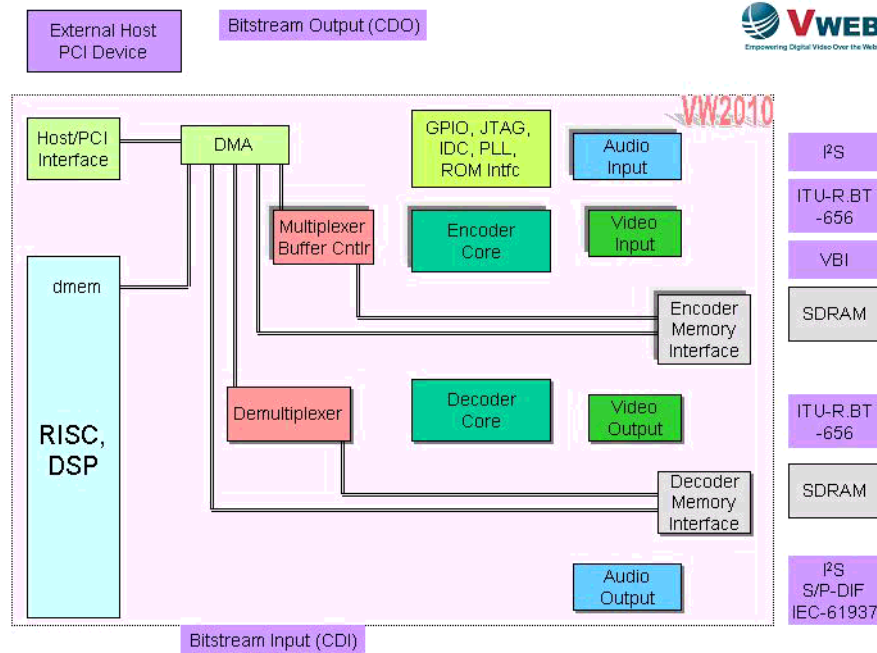

Figure 3 DMA Data Paths of the Vweb VW2010
- DMA channels between selected modules (shown in Figure 3 on page 8)
The data paths that can be set up via DMA channels between selected modules in the VW2010 are shown in Figure 3 on page 8. (Some of the data paths described in previous sections are actually implemented by means of these DMA paths.) As the figure shows, the DMA engine can be thought of as a direct bridge between the following devices in the chip:
*Note:* As Figure 3 on page 8 indicates (by omission), the chip's direct CDO port, and the bus from the MUX to the CDO port, are not available to the DMA engine.